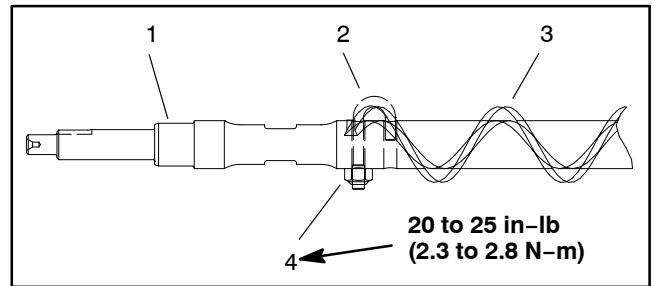

Figure 55
1. If brush was removed from shaft, slide brush onto shaft while rotating brush. Secure brush to shaft with two (2) J-bolts and lock nuts. Make sure that the J-bolts are installed with the threaded portion on the outside of the brush (Fig. 55). Torque lock nuts from **20 to 25 in-lb (2.3 to 2.8 N-m)**.
2. If roller brush was removed from roller shaft, slide brush onto shaft while rotating brush. Secure brush to shaft with two (2) J-bolts and lock nuts. Make sure that the J-bolts are installed with the threaded portion on the outside of the brush (Fig. 55). Torque lock nuts from **20 to 25 in-lb (2.3 to 2.8 N-m)**.